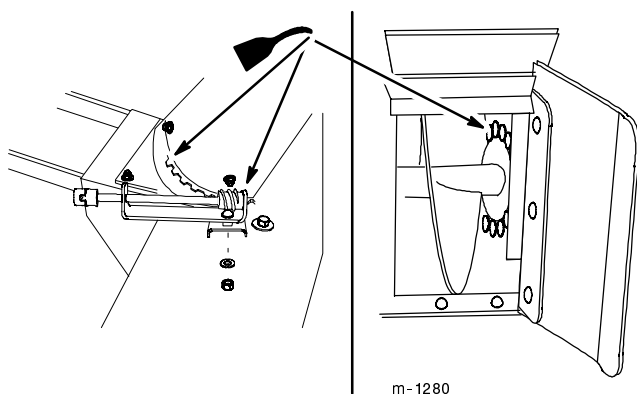

Figure 25
2. Coat the entire chain with oil and allow it to penetrate each roller (Fig. 25).
3. Place a few drops of oil on the discharge chute rotator shaft and discharge chute mounting (Fig. 25).